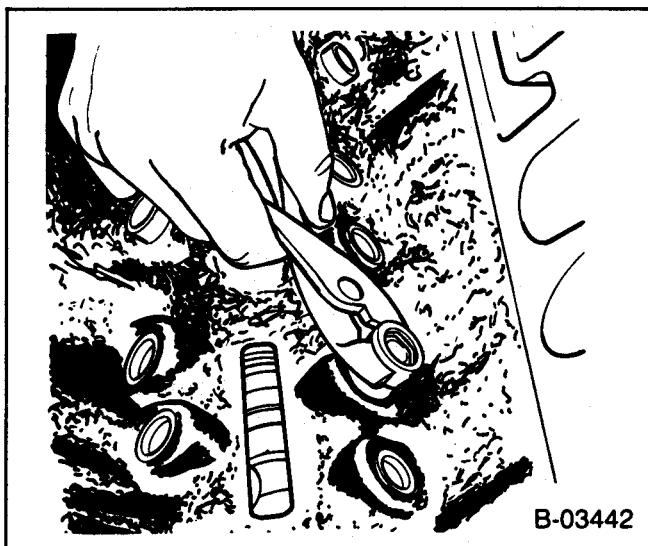
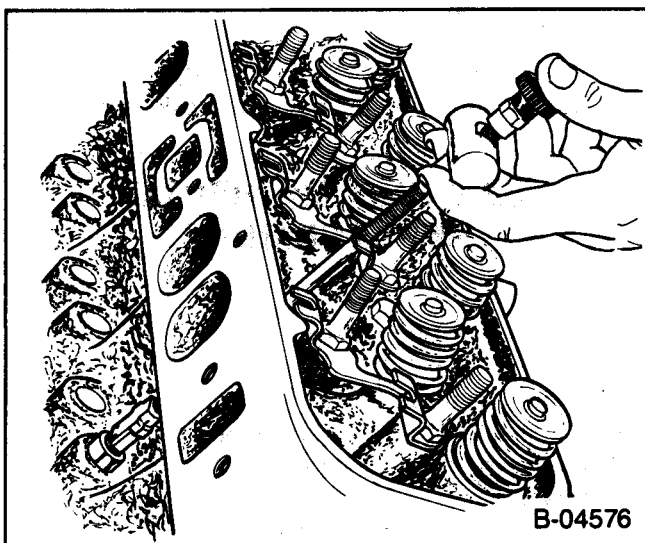

Figure 7—Removing The Valve Lifter
Figure 8—Removing The Valve Lifter
Remove or Disconnect (Figures 7 and 8)
- A stuck hydraulic lifter can be removed using J-3049 (figure 7) or J-9290-01 (figure 8).